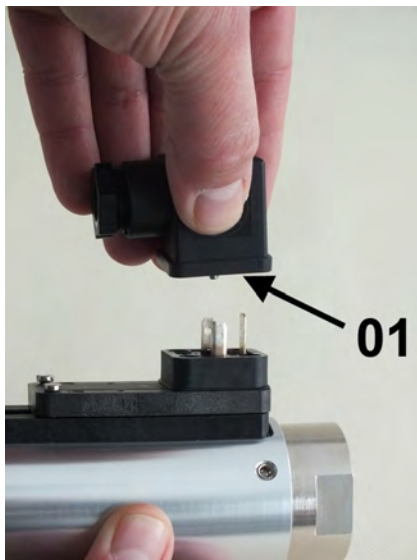

Fig. 21: Remove socket
2. ➤ Remove socket (Fig. 21/1).